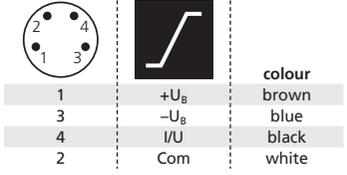

Fig. 1: Pin assignment with view onto sensor plug and colour coding of the microsonic connection cable
- ➔ Pull sensor cable through the sensor gland, connect it to the M8 sensor plug, see Fig. 1.